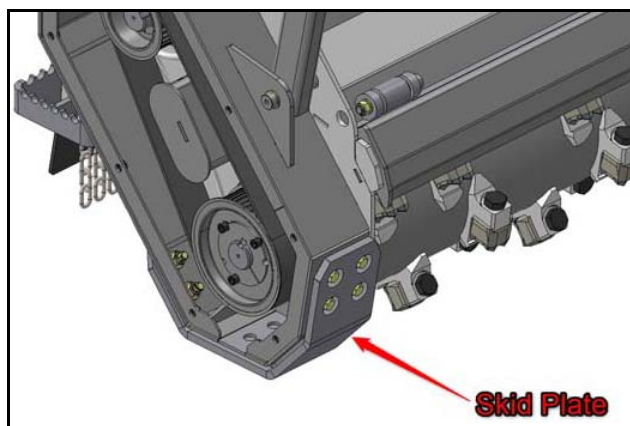

Figure 18
3. Remove the skid plates bolts and nuts **[Figure 18]**.